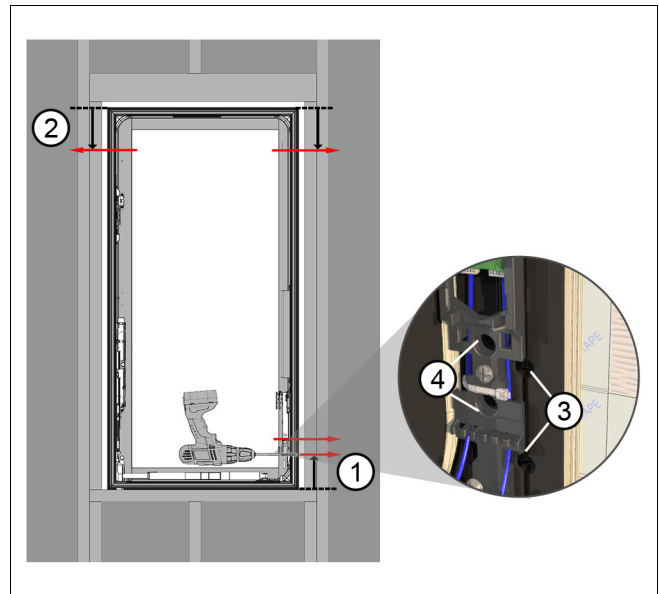

Figure 1 Casement: red arrows denote factory installation holes.
1. Pull all necessary wire into the window frame. Power wire needs to support 1 Amp of 24Vdc (16 ga. wire is recommended.) Figure 1 and Figure 3 show the location of the pre-drilled holes in the window frame to run power to the control board. Choose one or more of the locations, then drill a 1/4" hole through the rough opening. The drill bit will fit through the pre-drilled frame hole and then may need to penetrate plastic shims, this is normal. When running the wires, use wiring methods that are compliant with all local, applicable codes and practices. See Figure 1
If one of the holes shown in location 3 on Figure 1 is used, ensure wire jacketing is not punctured or torn when pulling through the frame. If necessary, use small wire tie downs to ensure the wire runs along the frame and will not interfere with the interior covers when installed. See Figure 1 and in Modern Installation Instructions.
2. If desired, wire can be run to connect the dry contact terminals to a 3rd-party switch or other control mechanism. Use the pre-drilled hole locations shown in Figures 1 and 2 to run the wire. Cat5 or Cat6 wire is suggested for dry contact wiring.